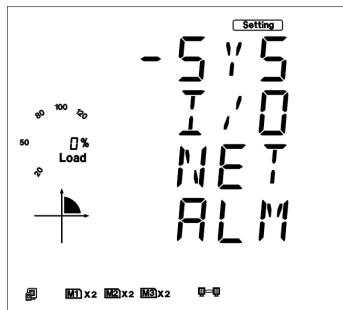

Fig 5-80
f). Set Gateway in the fourth setting page, such as 192.168.1.1. Press the "V/ A" key to go to the setting page. Users may set the parameters pointed out in Fig 5-80. The cursor starts at the first digit. After setting the Gateway, press the "V/ A" key to accept. Press the "P" key to go to the fifth setting page for DNS Primary Server.